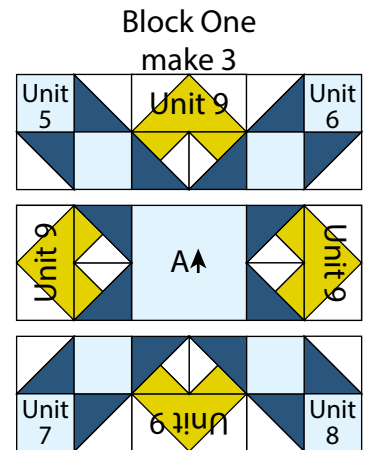

Fig. 15
10. Sew together (1) Unit 5 square, (1) Unit 9 square and (1) Unit 6 square, in that order from left to right, to make the top row (Fig. 15).
11. Sew (1) Unit 9 square to each side of (1) 6 1/2" Fabric A square to make the middle row (Fig. 15).
12. Sew together (1) Unit 7 square, (1) Unit 9 square and (1) Unit 8 square, in that order from left to right, to make the bottom row (Fig. 15).
13. Sew together the (3) rows from Steps 10-12 lengthwise to make (1) 18 1/2" Block One square (Fig. 15).
14. Repeat Steps 10-13 to make (3) Block One squares total.